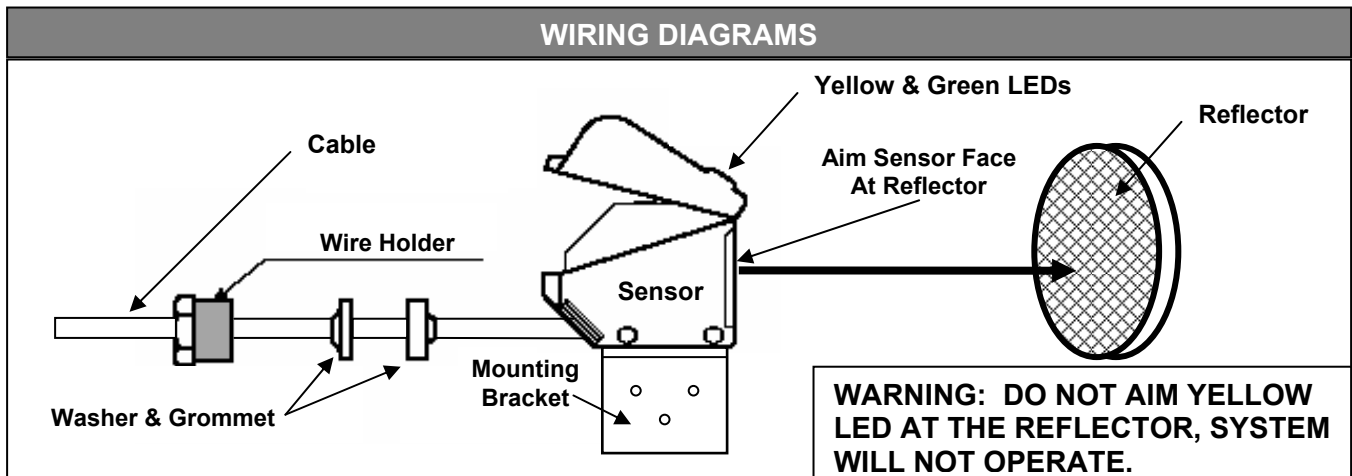
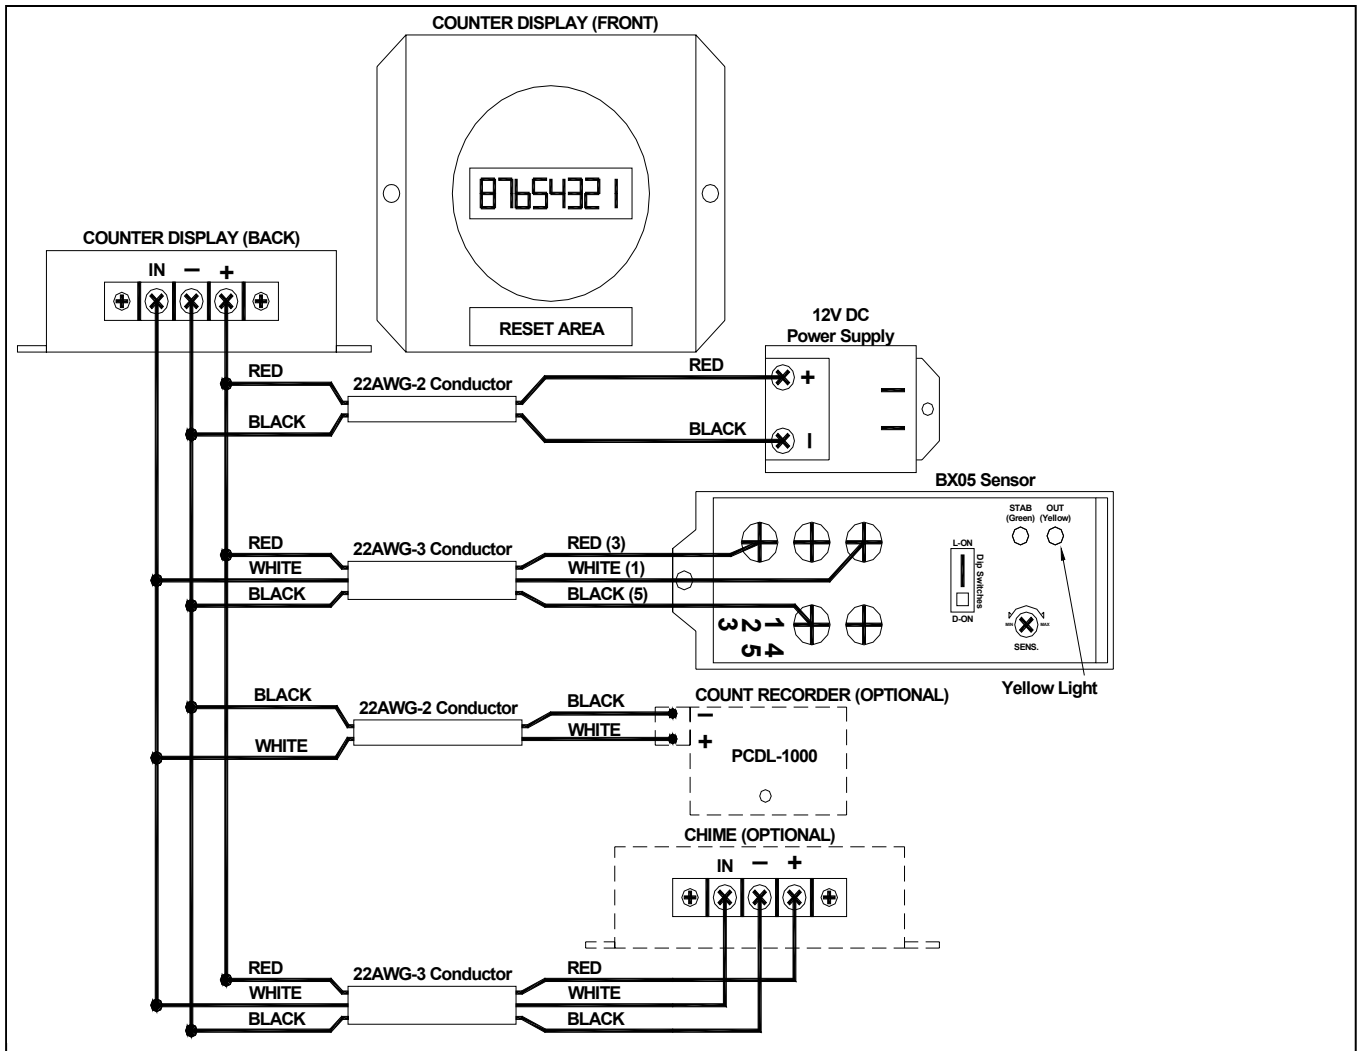

Figure 1
Figure 2
- 1.1. You may use your own cable (according to the specifications listed in figure 2) if you wish to extend the distance from the components (up to 1000ft with shielded cable). To remove the sensor cover, loosen the screw on the sensor housing and pull the cover off exposing the wire terminals. (Refer to Figures 1 and 2)
- 3.1. Power Supply/Transformer: Your system comes with a 2-conductor (red/blk) cable with fork connectors on one end. Connect the fork terminals to the white power supply (CHECK POLARITY) (Refer to Figure 2)
- 3.2. Display: Connect the wires from the sensor, power supply, Count Recorder¹ and chime¹ to the back of the display according to the wiring diagram, while adhering to the wiring codes established for your state and locality. Excess wire length can be trimmed. If a Count Recorder is being used please follow the included instructions with the Count Recorder along with the wiring guide in figure 2.